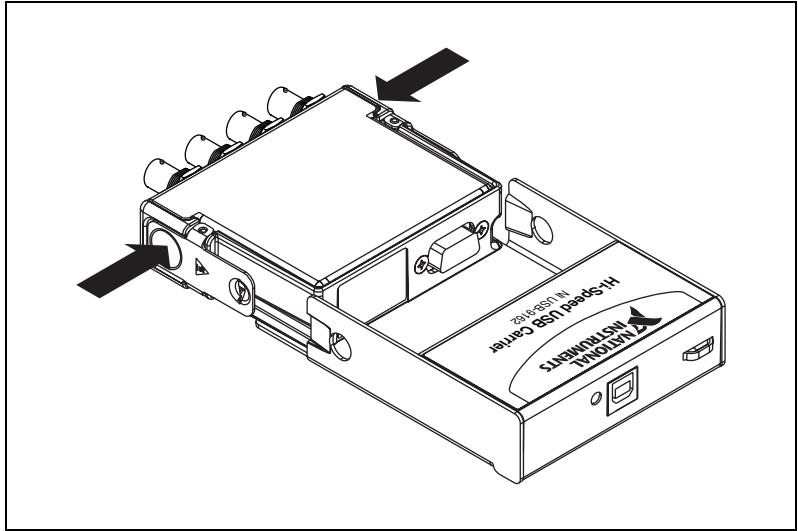

Figure 3. Module Installation
The NI 9233 module and NI USB-9162 carrier are packaged separately. Refer to Figure 3, while completing the following assembly steps:
3. Align the I/O module with the carrier, as shown in Figure 3.